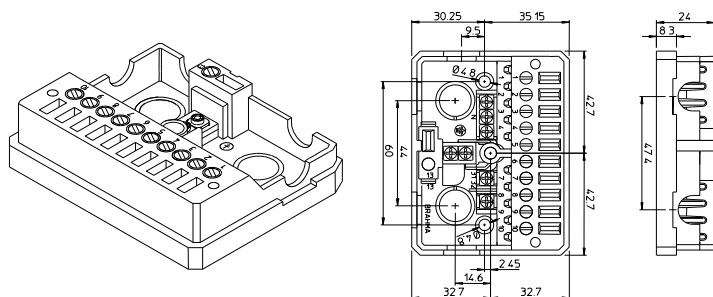
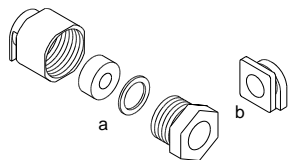

Fig. 2
Fig. 3
The accessories as connecting sockets and core hitches are supplied upon request for controller wiring. The following figures show connecting socket MOG type (Fig. 2) and core hitches (Fig. 3).
To order accessories (fig. 2 and 3), see to the following codes:
- socket MOG type code 18210121 (fig. 2);
- core hitches code 18210200 (fig. 3 a);
- core hitches code 80536550 (fig. 3 b).
- In order to maintain the IP40 protection degree the device must be connected to the MOG socket (fig. 2) with core hitches (fig. 3);